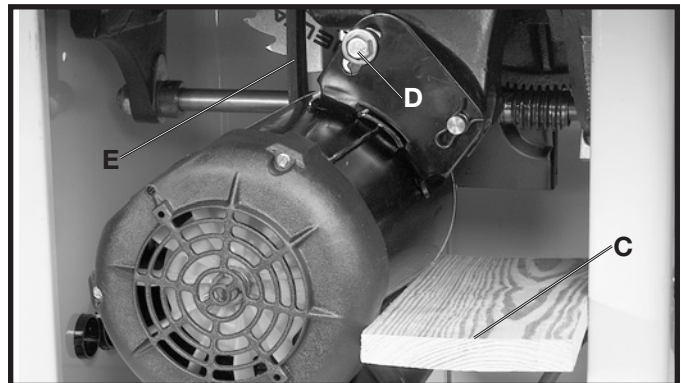
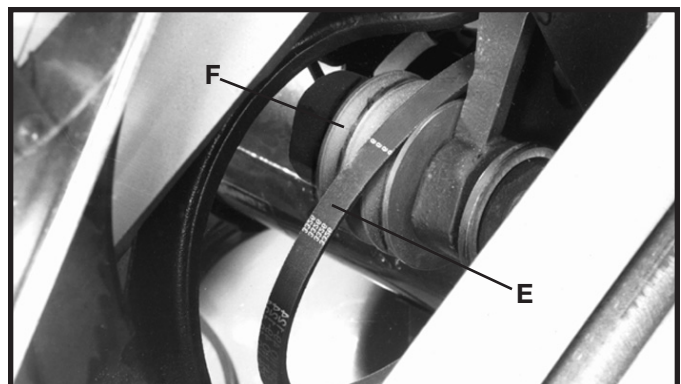

Fig. 51
Fig. 52
2. Place a block of wood (C) Fig. 51, between the motor and saw cabinet as shown. **NOTE:** It may be necessary to raise the saw arbor in order to insert the wooden block. Lower the saw arbor until the motor contacts the wood.
3. Loosen bolt (D) Fig. 51, and continue to lower the saw arbor until all tension is removed from the belts (E). Tighten bolt (D).
4. Raise the saw arbor slightly and remove the block of wood (C) Fig. 51.
5. Lower the saw arbor. Remove the belts (E) Fig. 51, one at a time from the motor pulley.
6. Remove the belts (E) Fig. 52, one at a time from the arbor pulley (F).
7. Assemble the three new belts, one at a time in the grooves of the arbor pulley (F) Fig. 52, and onto the motor pulley.
8. When the new belts are assembled on the arbor pulley (F) Fig. 52 and the motor pulley, loosen screw (D) Fig. 51, and carefully let the motor rest on the belts.
9. Correct belt tension is when there is approximately 1/4" deflection in the center span of the pulleys, using light finger pressure. After tension is applied, tighten screw (D) Fig. 51.